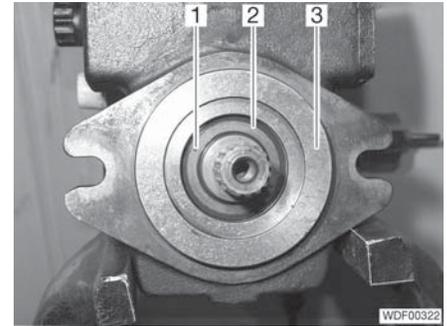

Fig. 119 Annular shaft seal
- Screw 2 sheet metal screws into the holes (Fig. 119,1).
- Pull out the annular shaft seal (Fig. 119,2) on the sheet metal screws.
- Slightly oil the new annular shaft seal (Fig. 119,2).
- Place the annular shaft seal into position so that the metal ring faces away from the variable displacement pump (Fig. 119,3).